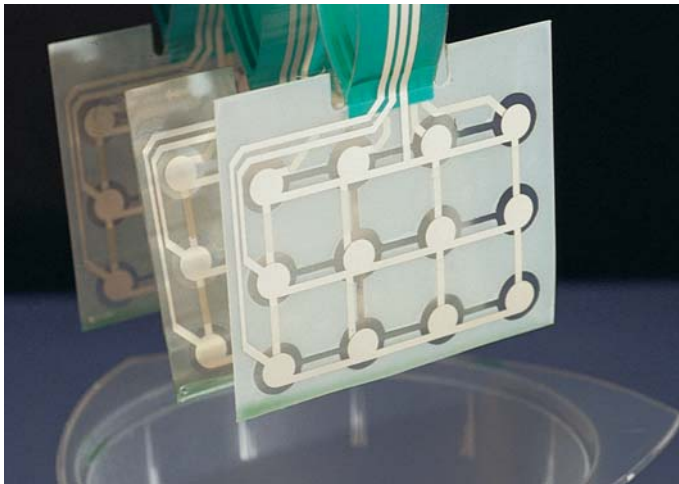

FIGURE 12: HeatSeal construction switch soaked in 409
- HeatSeal spacer – no visual degradation of the switch occurred in any of the switches. There were no measurable changes in the insulation resistance of any of the parts (see Figure 12).